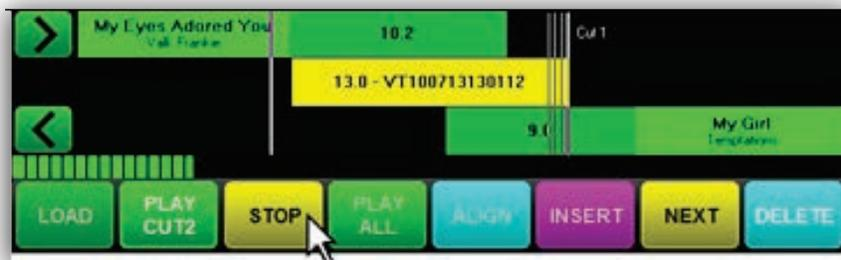

Figure 6-21. Clicking the STOP Button
3. To end the recording progress, click the **Stop** button (see Figure 6-21).